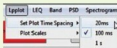

Fig. 2: Lpplot→Plot Scales
(1) [Fig. 2], to select the sample rate of the signal stimulated in Lp mode.
2. Select Lpplot→Plot Scales from the main menu (1) [Fig. 2], to select the plot scales as auto for auto scaling, or as manual for manually setting the X and Y minimum and maximum values.